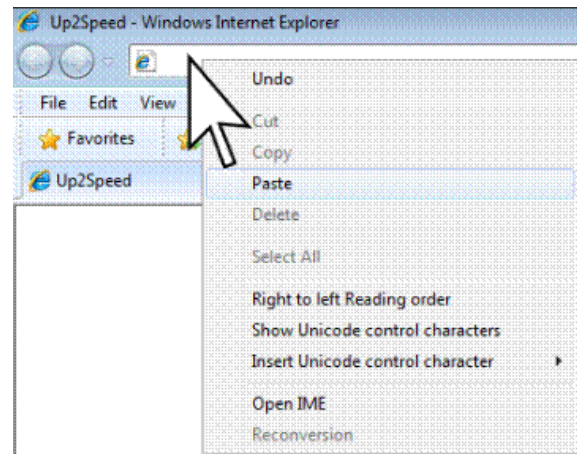

Figure 5. Pasting the web link into the browser's address bar.
3. Open a web browser. Right-click in the address bar to open the shortcut menu, then select "Paste" (Figure 5) to insert the web link.